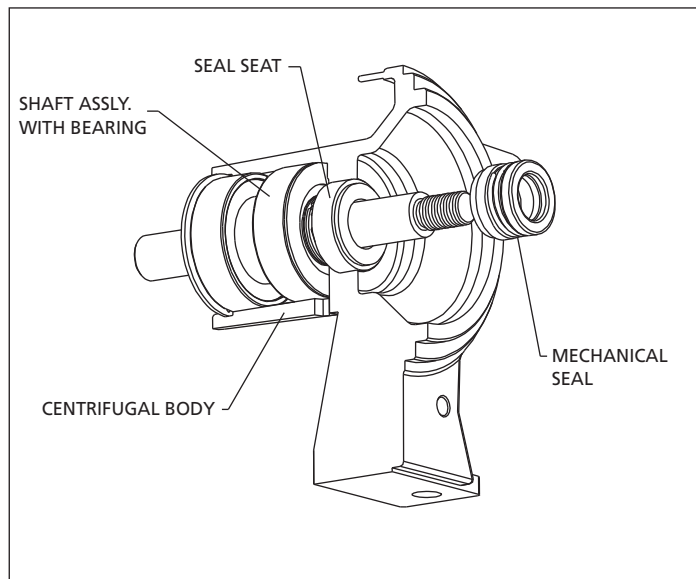

Figure 4 - Seal Removal
4. The seal head (part of Ref. No. 5) can now be pulled from the shaft. (See figure 4).
## Seal Assembly Removal and Installation (Figures 4 thru 7)